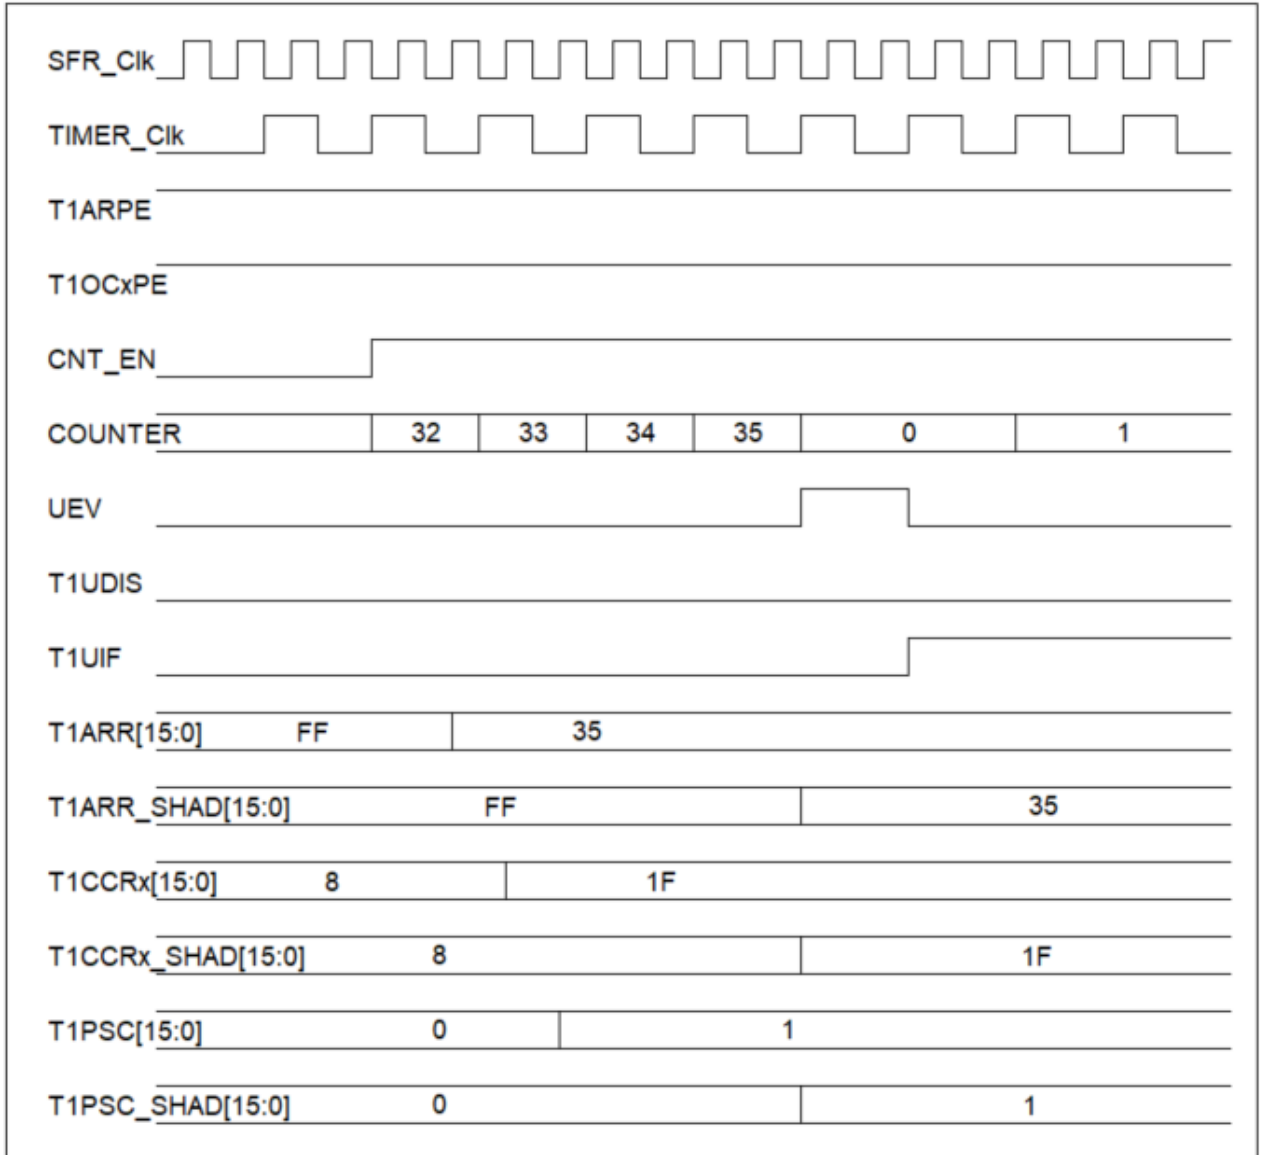

Figure 7-4 Update timing diagram of the preload register under update event
- (1) When the counter is enabled ($T1CEN = 1$) and its corresponding preload is enabled ($T1OCxPE / T1ARPE = 1$, as in Table 7-18), its shadow register will be updated to the preload value when an update event is generated, as in Figure 7-4.
- (2) When the counter is disabled ($T1CEN = 0$), or its corresponding preload is disabled ($T1OCxPE / T1ARPE = 0$), its shadow register will be updated directly to the preload value.